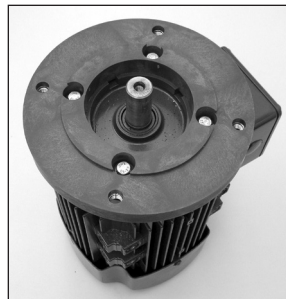

Figure 2
3. For Metric motors install the motor adapter flange (item 18) on the motor face using bolts, lock washers and flat washers (items 31, 32 & 33). See figure 2.